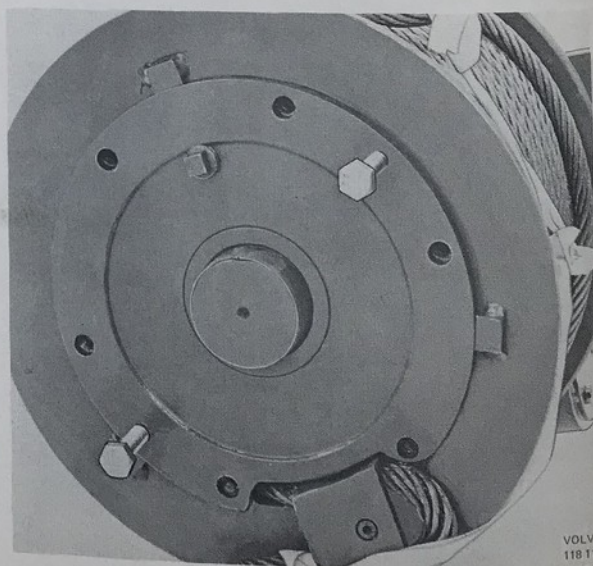

Fig. 92-45. Removing the cover
3. Remove the bolts securing the cover to the cable drum, see Fig. 92-45. Pull off the cover with the help of two bolts (M10 with 40 mm = 1.5 in. thread length).